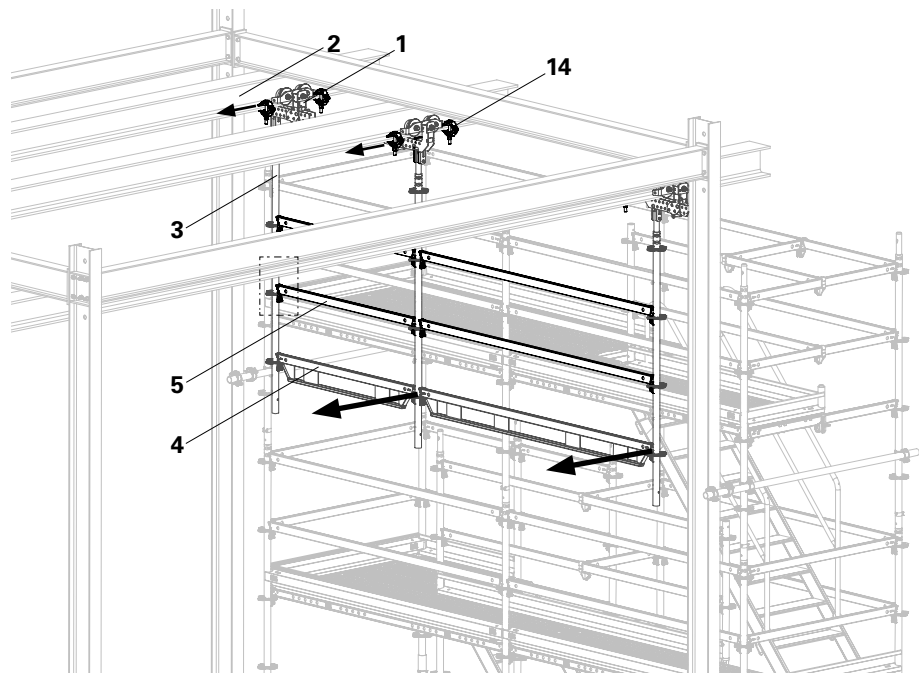

Fig. A4.04
6. Push the first frame in the longitudinal direction until an additional frame can be mounted. (Fig. A4.04)